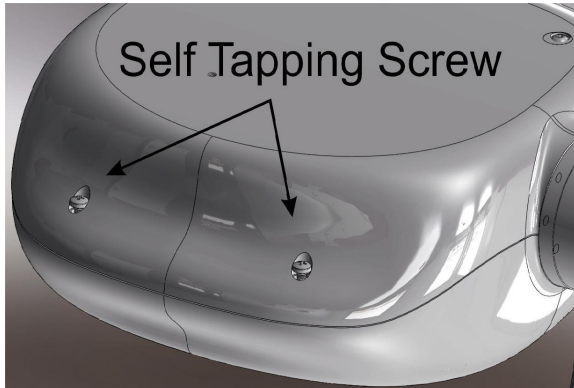

Figure 43
- Remove the 2 M3X16 self tapping pan head screws using phillips screw driver and remove the bottom cover as shown in the Figure 43 .